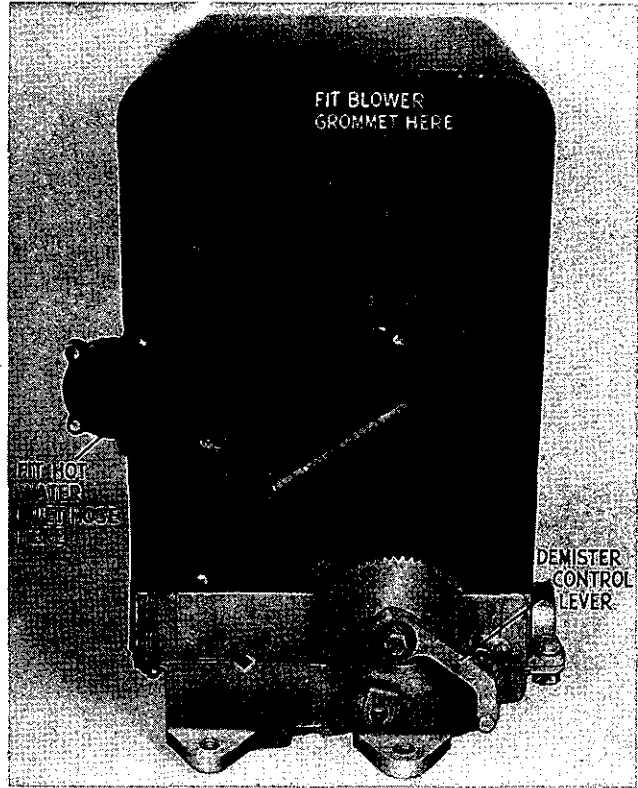

Fig. 5. Showing position of demister control lever inlet water connection and aperture for blower connection.
16. Fit blower grommet to side of heater unit (see Fig. 5).